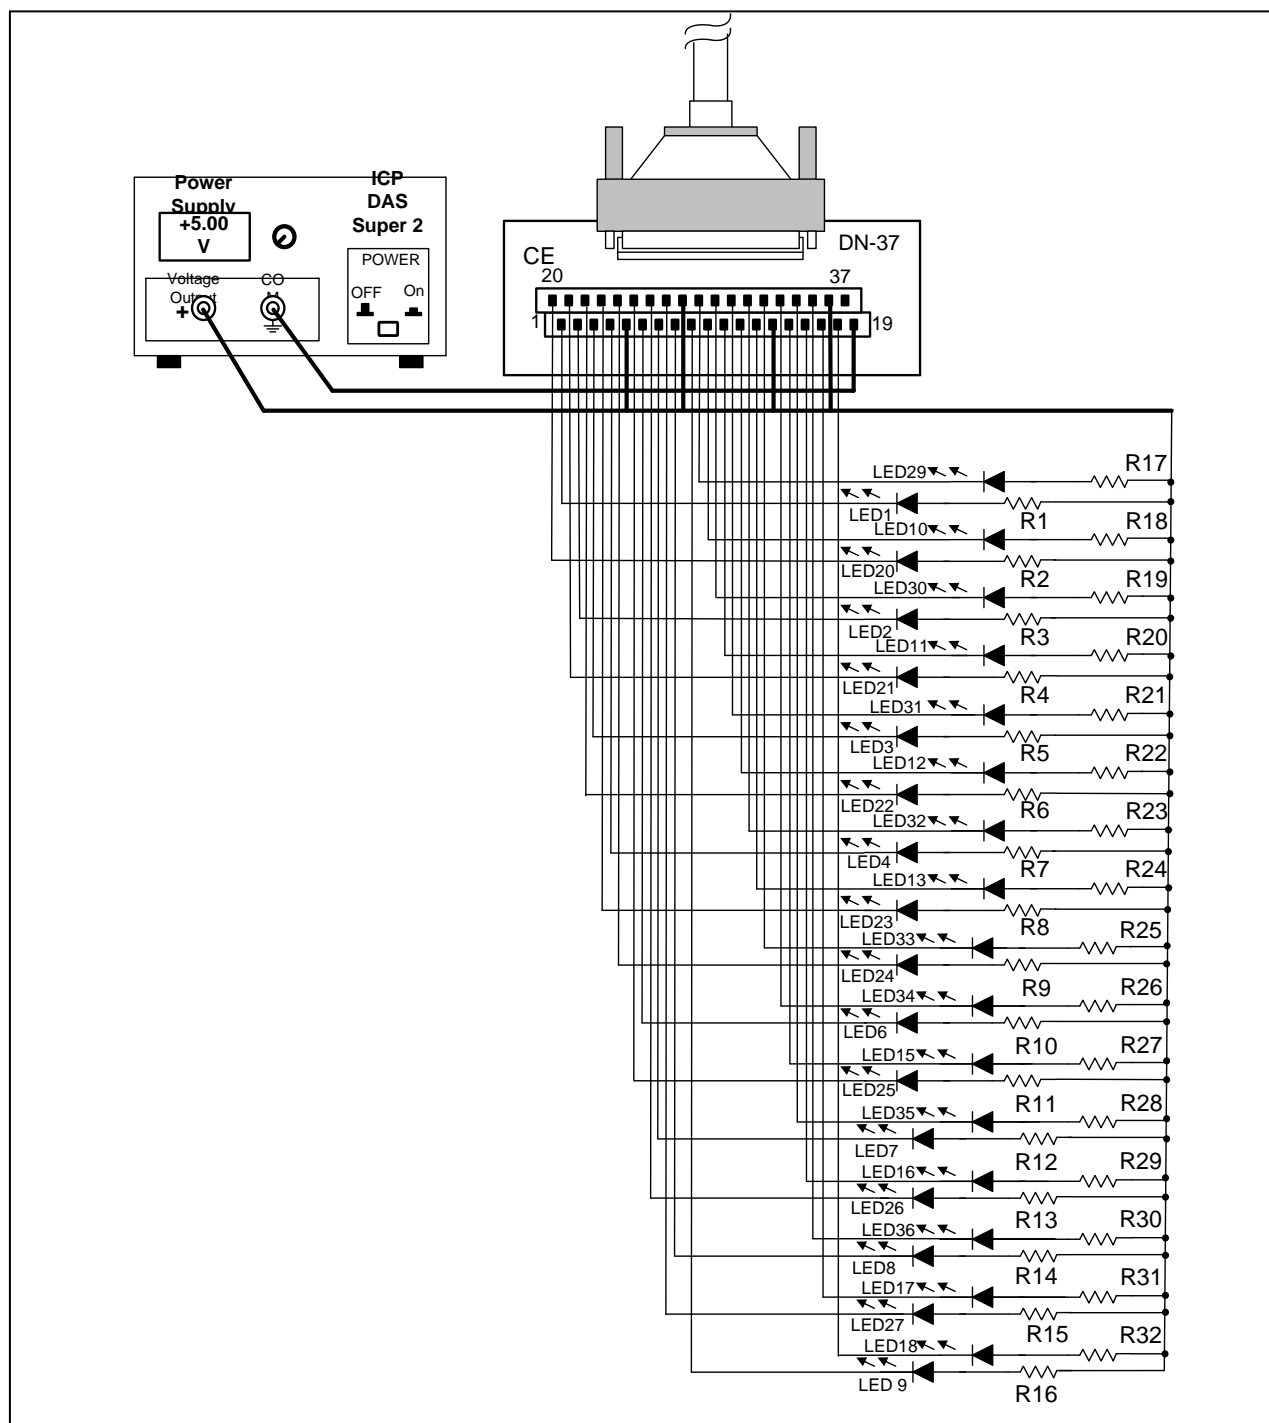

Figure A-2. The circuit diagram for external device 1 for D/O of PISO-1730U
- Figure A-2 (PISO-1730U) shows the circuit diagram for external device 1